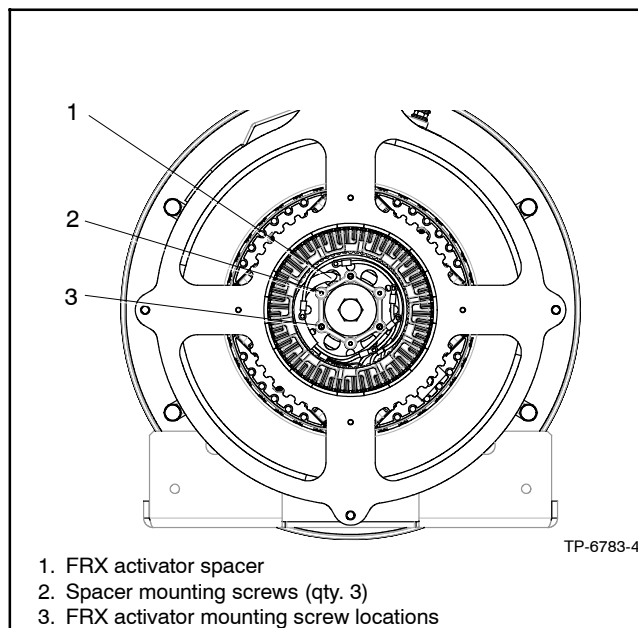

Figure 16-4 Removing FRX Activator Spacer
7. Remove the FRX activator spacer from the exciter armature. See Figure 16-4. Disconnect the exciter armature and rotor leads (AC1, AC2, AC3, F1, and F2) from the spacer.